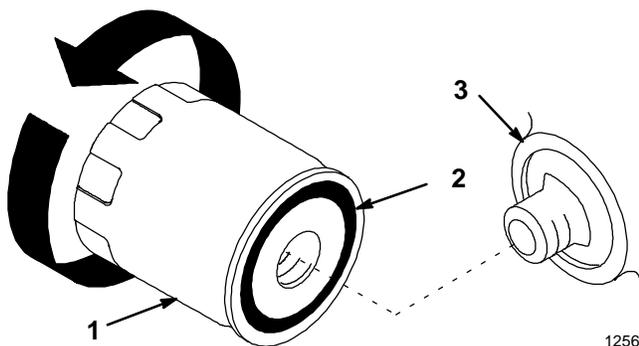

Figure 34
6. Change oil filter (Fig. 34).
2. Remove the old filter and wipe the filter adapter (Fig. 34) gasket surface.
3. Apply a thin coat of new oil to the rubber gasket on the replacement filter (Fig. 34).
4. Install the replacement oil filter to the filter adapter. Turn the oil filter clockwise until the rubber gasket contacts the filter adapter, then tighten the filter an additional 1/2 turn (Fig. 34).